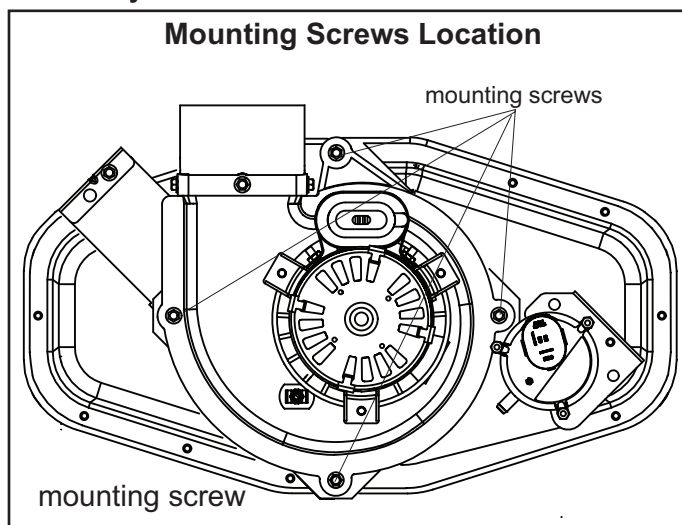

FIGURE 15
- 1 - Remove the four mounting screws (FIGURE 15) which secure the combustion air inducer / pressure switch assembly to the orifice plate. Lift and rotate the assembly 90 degrees clockwise or counter clockwise to either the 3 o'clock position or to 9 o'clock position and re-secure with four screws. Gasket should be left in place.